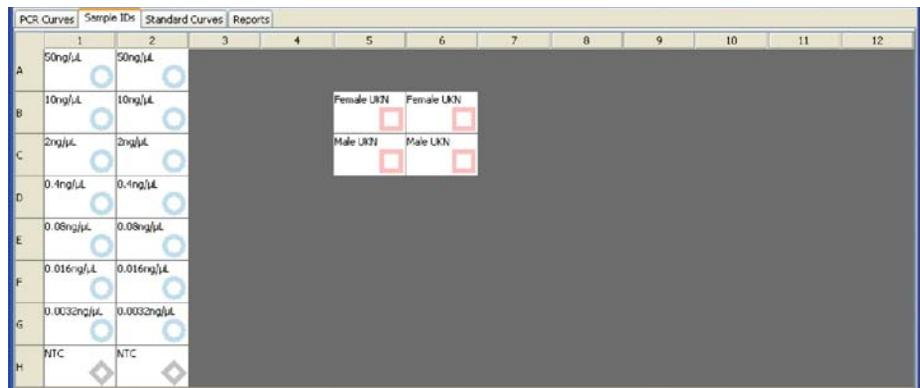

Figure 26. The Sample IDs tab.
- a. Select the Sample IDs tab (Figure 26). Select the well, and enter the desired sample name. Repeat to enter sample names for other wells.